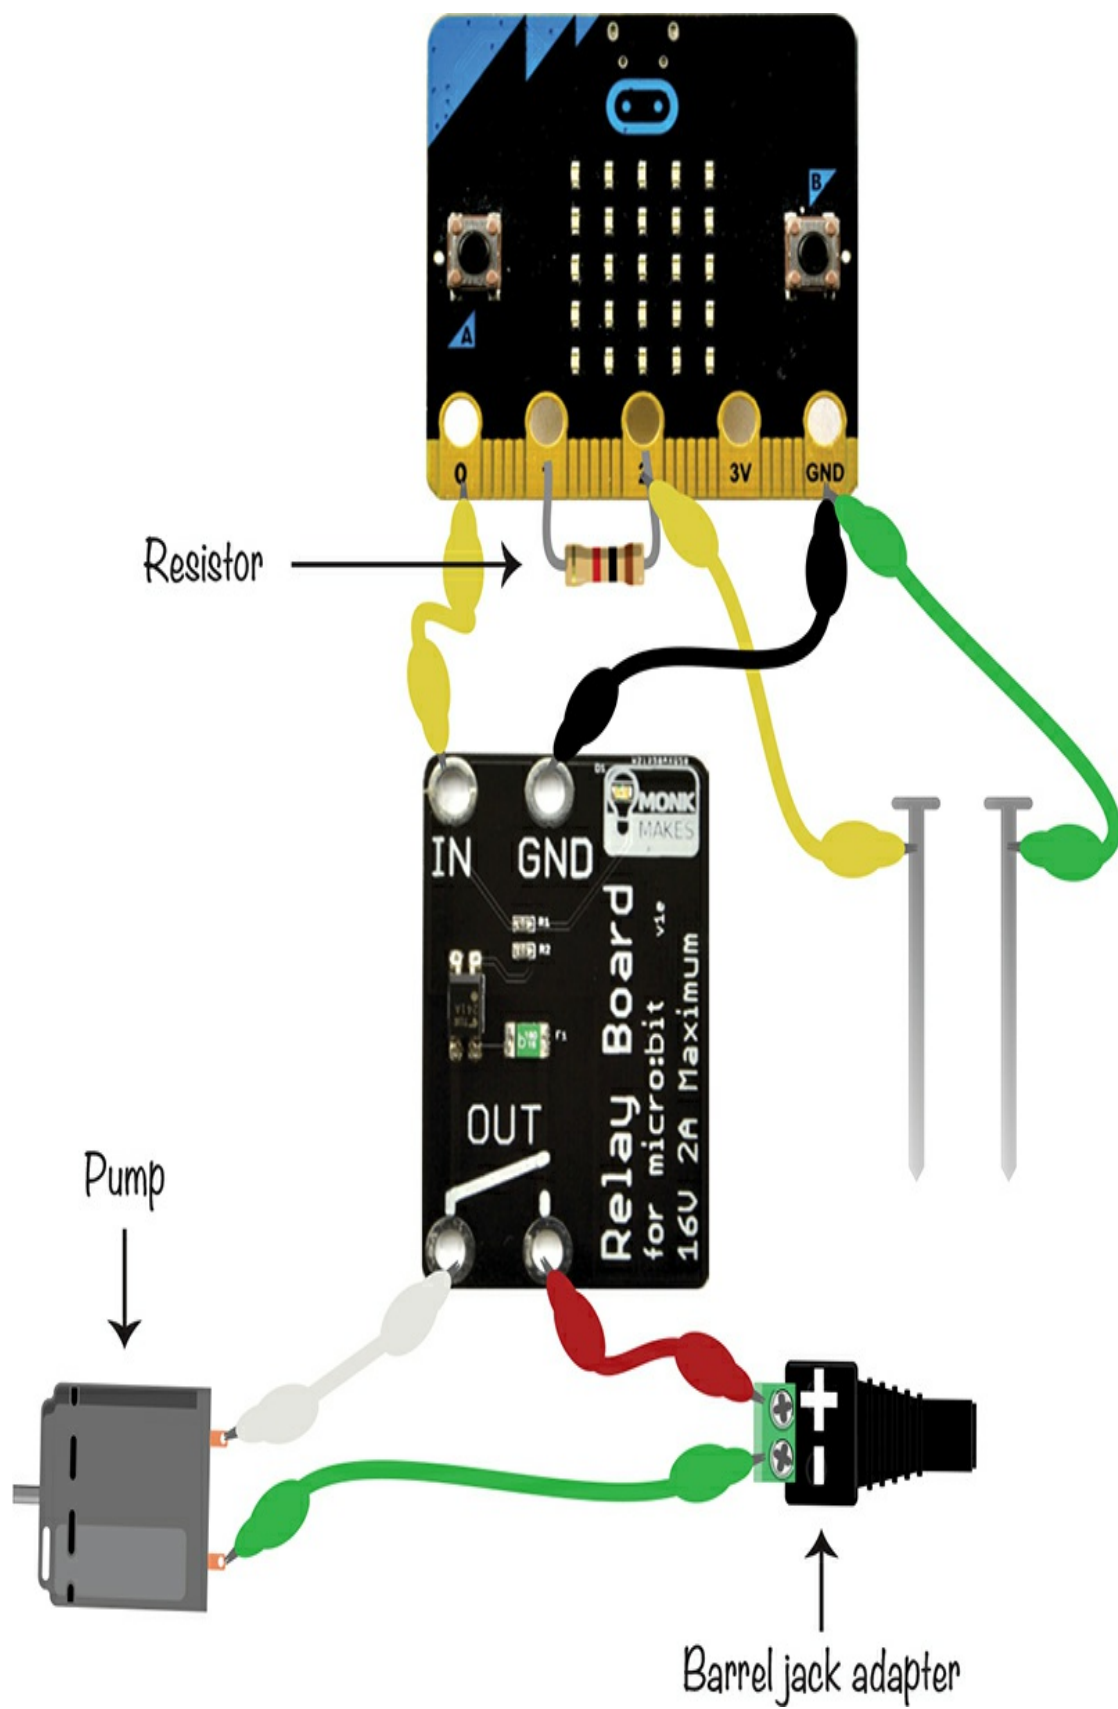

Figure 9-7: Wiring for the automatic plant waterer project
Figure 9-7 shows how the electronics are connected to give you an idea of what you are aiming for as you follow the step-by-step instructions.
3. Using Figure 9-7 as a reference, wire up the alligator clips to the micro:bit, relay board, barrel jack, and pump. Don't attach the yellow and green cables to the nails or connect the tubes to the pump just yet. To get the alligator clips to attach to the screw terminal ends of the DC barrel jack adapter, use a screwdriver to fully open the screw terminals. If your alligator clip jaws are too big to fit into the screw terminal holes, you can fit straightened-out paper clips into the screw terminals and then clip the alligator clips onto those.
If you look back at Figure 9-7, you can see that there is a resistor between pins 1 and 2. To make it easier to see what is going on, another way of visualizing the schematic is shown in Figure 9-10.